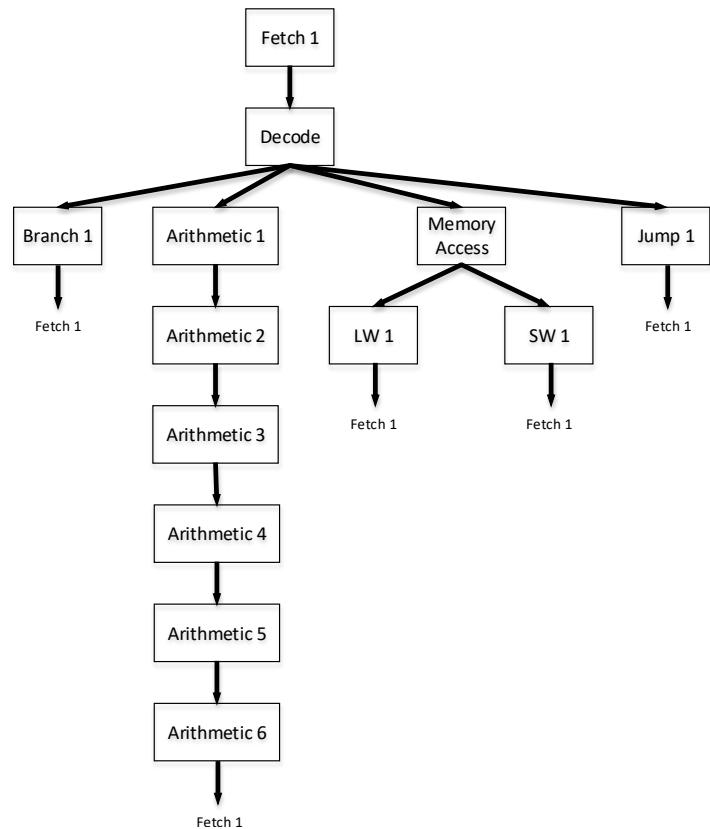

Figure 4: FSM 2
2. Suppose we make a change to the design while we keep the same compiler and the same frequency of instructions. The new FSM is as shown in the Figure 4. Which design is better?